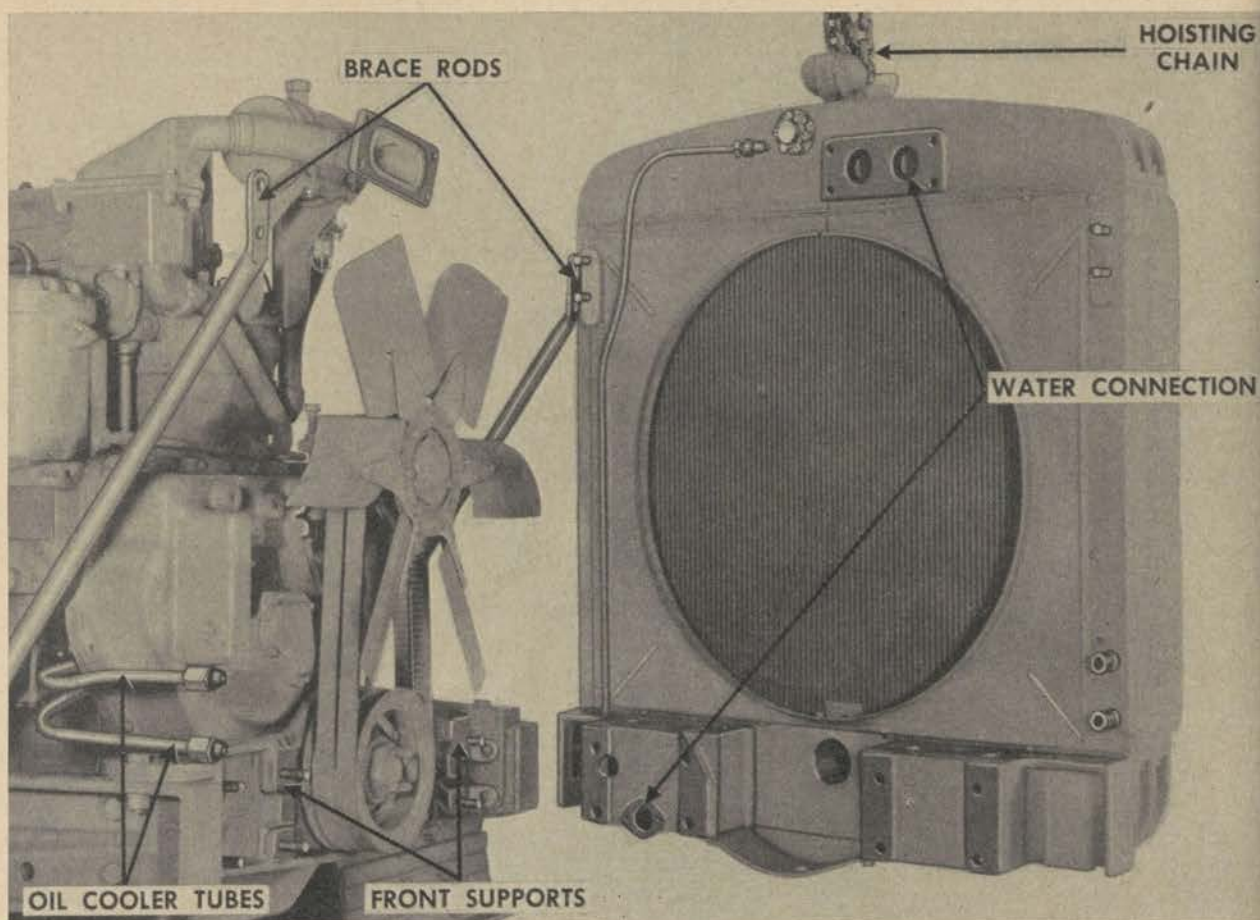

Figure 197. Radiator removal and reassembly.
(4) *Radiator removal.* Drain the cooling system, oil cooler, and oil filter base. Remove the hood. Take off the guard assemblies between the radiator and radiator braces. Disconnect the oil cooler tubes (fig. 197), the water connections, brace rods, and nuts holding the radiator to the front supports. Then lift off the radiator and oil cooler as a unit, with a chain hoist. After cleaning all the inlet and outlet pipes thoroughly, carefully check all gaskets, and replace damaged ones. Inspect the inlet and outlet hose, particularly about the clamping points, to insure that they are not deteriorated, and are free from leaks. Thoroughly flush out and clean the radiator body.